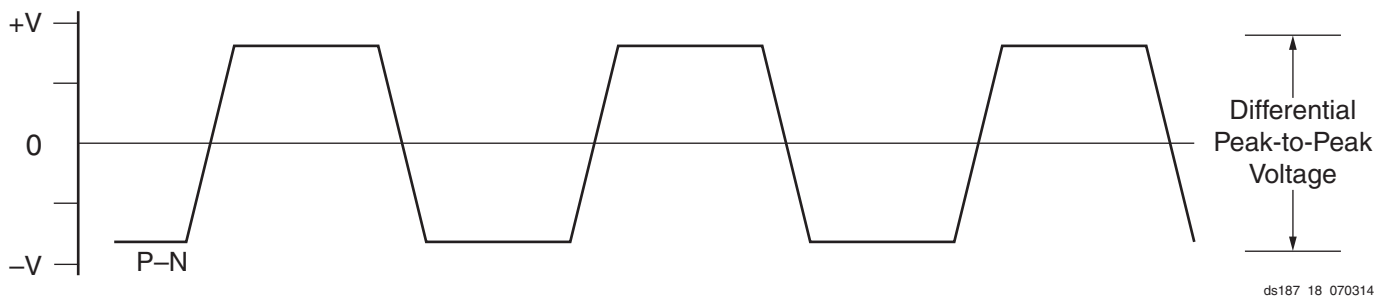

Figure 21: Differential Peak-to-Peak Voltage
**Note:** In Figure 21, differential peak-to-peak voltage = single-ended peak-to-peak voltage x 2.